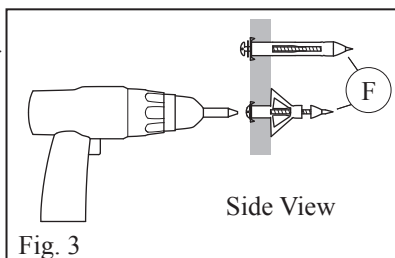

Fig. 3
6. Use an electrical screwdriver to tighten the screws. This will collapse the molly bolts (F) tightly to the wall. (Fig. 3)